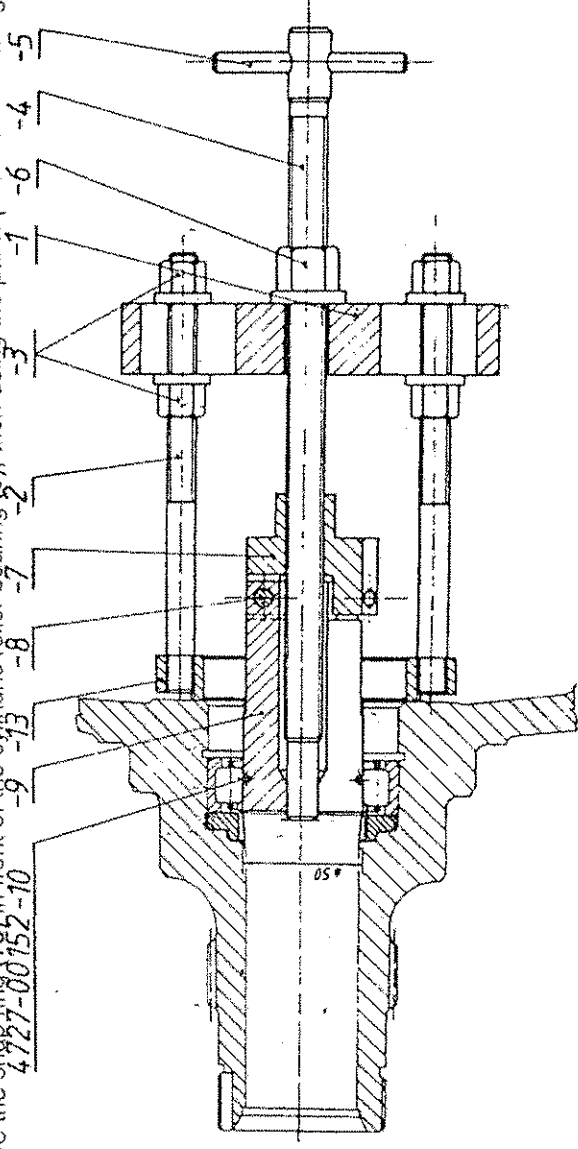

Fig. 1: PULLING OUT THE CYLINDRIC ROLLER BEARING FROM THE SPINDLE
By means of the puller shown in Fig. 1, pull out the seal retainer (73), the sealing ring (30).